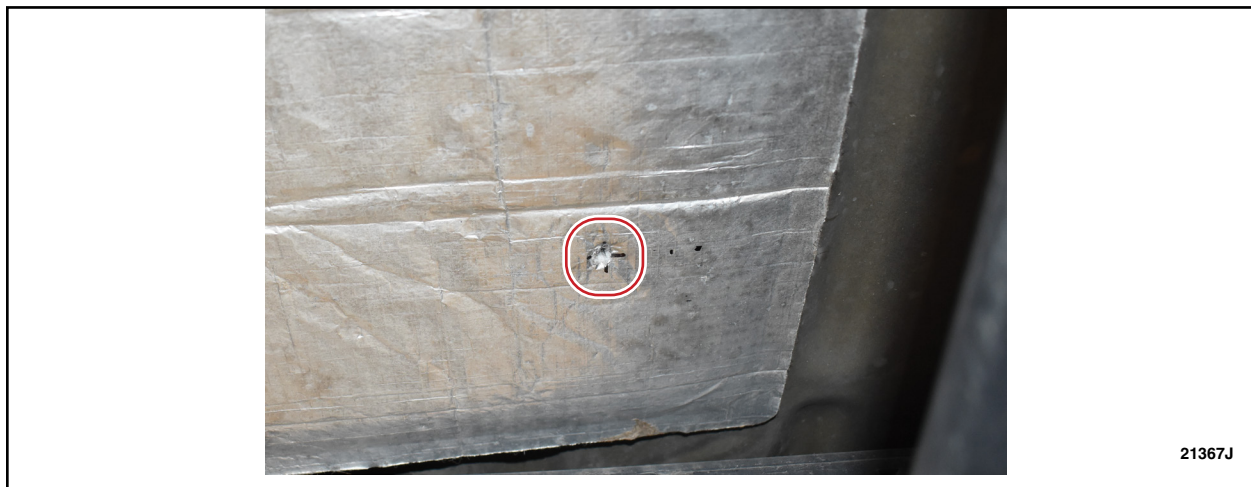

FIGURE 7
7. Using the 6.7mm (17/64 in) drill bit, drill a hole through the insulator and into the floor. See Figure 7.